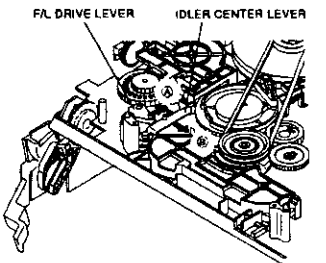

Fig. 2-17-5
7 Fully move the F/L DRIVE LEVER shown in Fig. 2-17-5 in the direction shown by arrow
- 11 Fully move the IDLER CENTER LEVER shown in Fig. 2-17-5 in the direction shown by arrow (B).